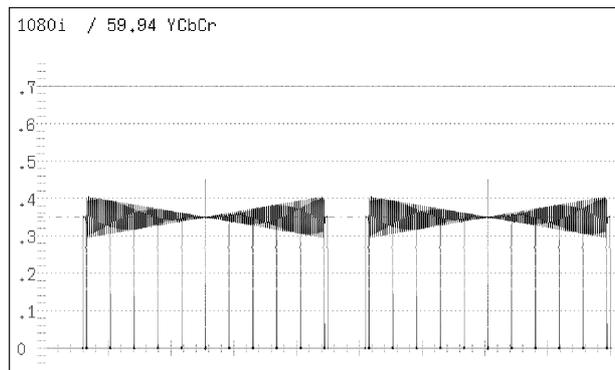

Figure 6.5 Timing Display
Select TIMING using the MODE key ⑨ to measure the time and amplitude differences between channels with respect to CH1 (Y/G). A bowtie signal is used as a signal source. Timing display shows two bowtie displays side by side as shown in Figure 6.5. The conditions of CH1, CH2, and CH3 ⑪ are ignored.